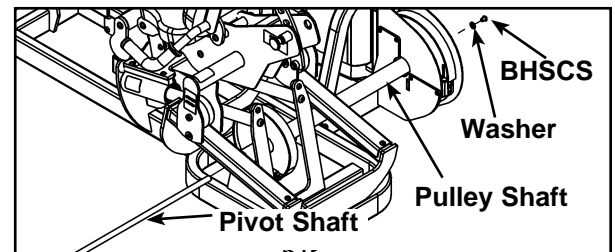

Figure 3
I. Remove one of the two BHSCS (Button Head Socket Cap Screws) securing the pivot shaft. See Figure 3.
J. Carefully remove pivot shaft and pulley shaft. See Figure 3.
N. Carefully attach pulley shaft using the pivot shaft and BHSCS removed in steps 4I and 4J. See Figure 3.